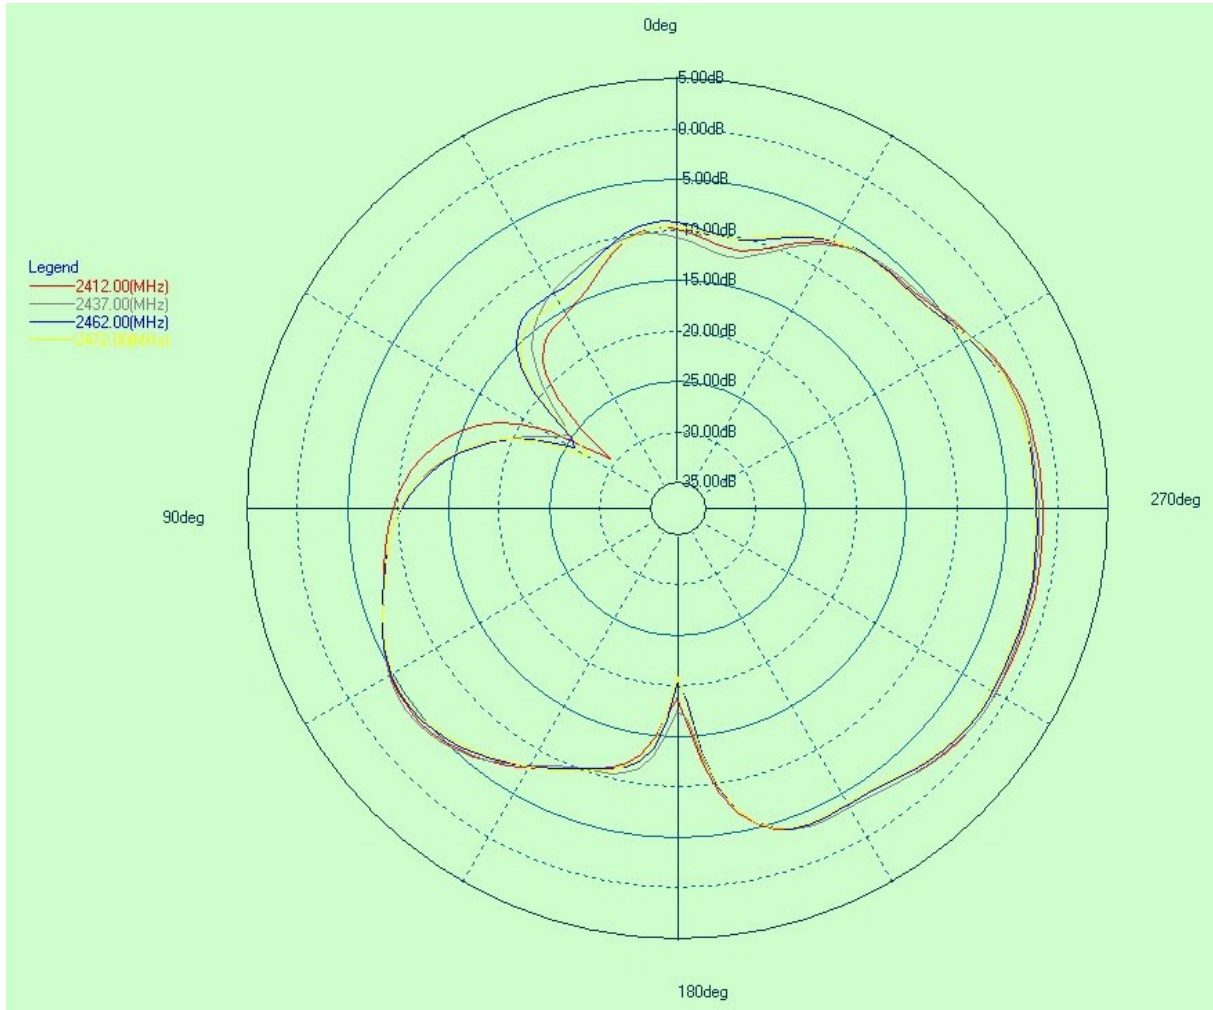

Figure 18. Antenna Radiation Pattern when Phi = 0 degree
- Follow the module placement, keepout, host PCB cutout recommendation as shown in Figure 18
- Follow the electrical keepout layer recommendation as shown in Figure 18. There should be no copper in all layers of the host board in this region. Avoid placing any components (like mechanical spacers, bumpon etc) in the recommended electrical keepout area.
- Place GND polygon pour below the module with the recommended boundary in the top layer of the host board as shown in Figure 18. Do not have any breaks in this GND plane.
- Follow the mechanical boundary of the host PCB as shown in the Figure 18